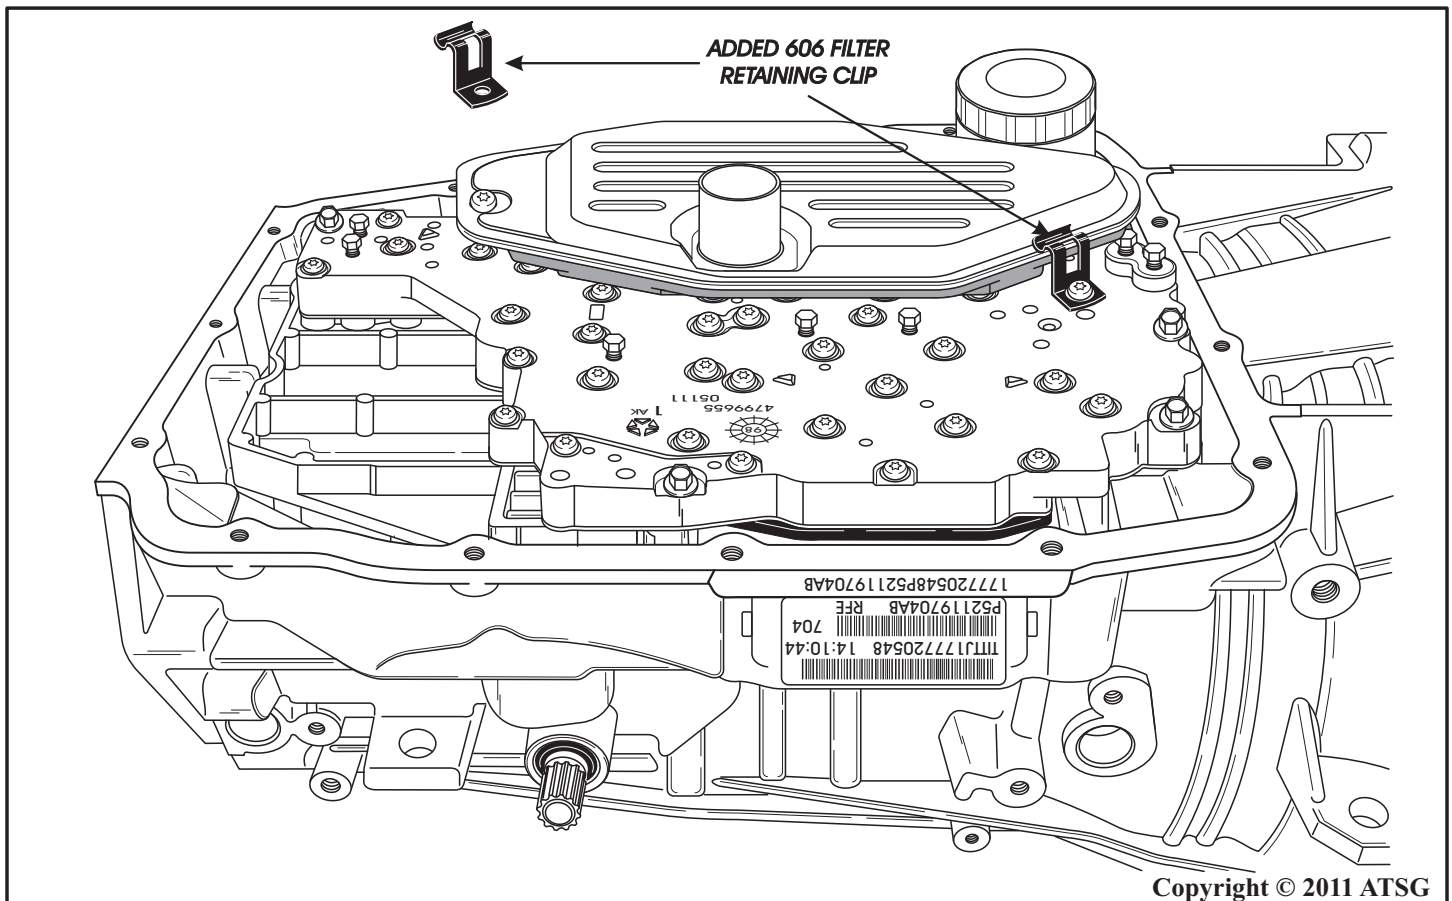

Figure 162
Note: Some aftermarket filters are known to come out of the filter seal during operation. ATSG recommends using OEM (Filtran) for all rebuilds. Some Technicians are using the filter retaining clip from the 606 transmission, as shown in Figure 162. "Not necessary" with the OEM (Filtran) filter.
45. You may want to add this 606 filter retaining clip to your unit as a precaution, as shown in Figure 162.